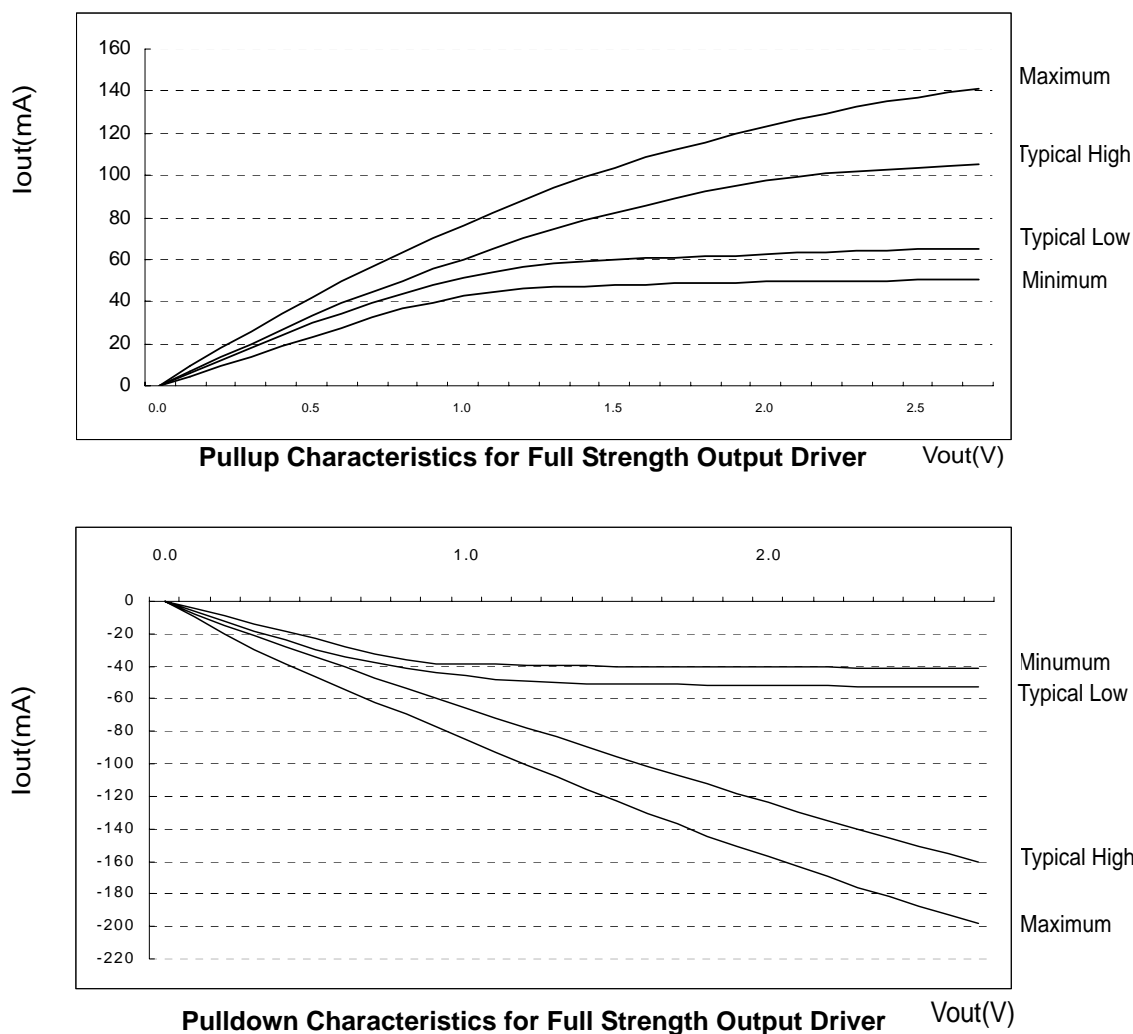

Figure 3. I/V characteristics for input/output buffers: Pull up(above) and pull down(below)
Figures 3 and 4 show the driver characteristics graphically, and tables 8 and 9 show the same data in tabular format suitable for input into simulation tools. The driver characteristics evaluation conditions are:
1. The full variation in driver current from minimum to maximum process, temperature and voltage will lie within the outer bounding lines the of the V-I curve of Figure 3 and 4.
2. It is recommended that the "typical" IBIS V-I curve lie within the inner bounding lines of the V-I curves of Figure 3 and 4.